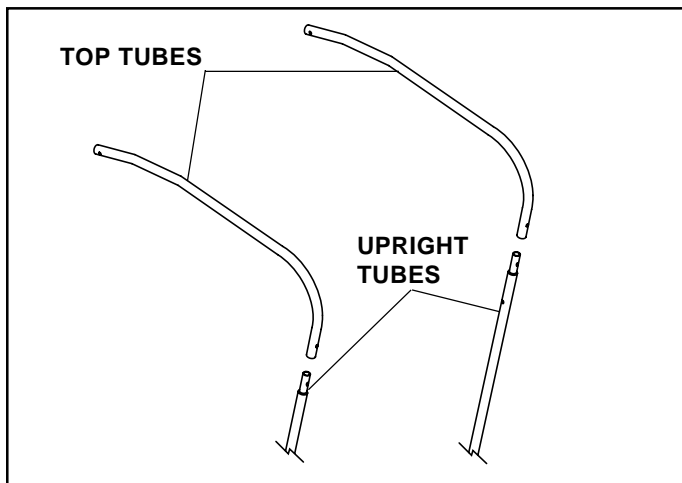

FIGURE 5
- Attach top tubes to the upright tubes, but do not install mounting bolts at this time. See figure 5.